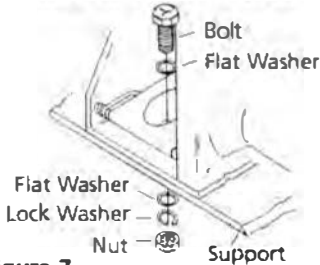

Figure 7
Drill two 7/16" (12mm) diameter holes with center lines exactly 3-11/16" (93.66mm) apart (Figure 7) in the support chosen for the winch. Attach the winch to the support with two (2) 3/8-16 Hex Head Bolts. Be sure the hardware is assembled as shown. Tighten the hardware to 35 lb. ft. torque.